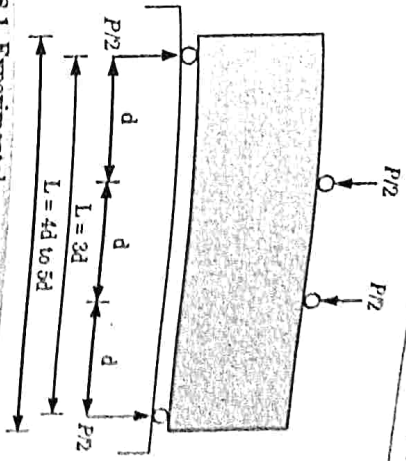

Fig. 4.18.1. Experimental arrangement for flexural strength test
- As shown in the Fig 4.18.1 equal load application is done at one third distance from the end supports. The reactions are equal at the support.